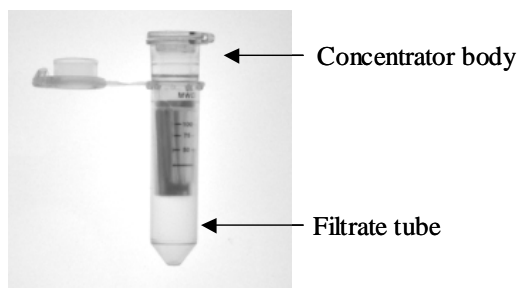

Figure 12. Diafiltration spin filter used for concentrating dilute antibody samples prior to the start of All-in-One conjugation protocol.
The HRP-Antibody All-in-One Conjugation protocol requires that initial antibody protein concentration be at 4-5 mg/ml and 25 μ l. Many antibody vendors package their products at significantly more dilute concentrations (e.g. 0.25 to 1.5 mg/ml). In these instances, IgG samples will need to be concentrated to 4-5 mg/ml and 25 μ l before proceeding. The All-in-One kit provides two (2) diafiltration filters (M.W.C.O. 30 kD) for this purpose (**Figure 12**). Carefully follow these instructions to avoid antibody loss or aggregation on the filter's surface.